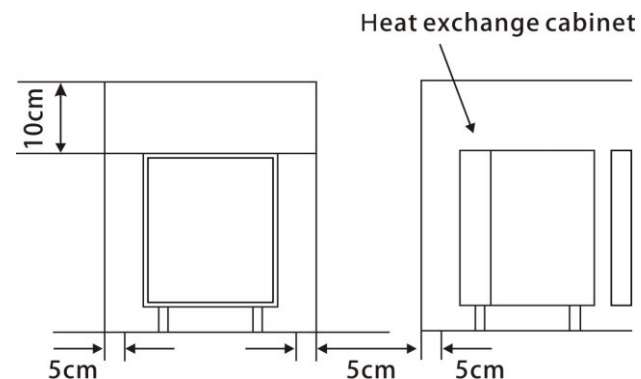

Figure 1
1. The proper placement of the refrigerator to keep good heat exchange effect of the refrigerator is shown in figure 1.